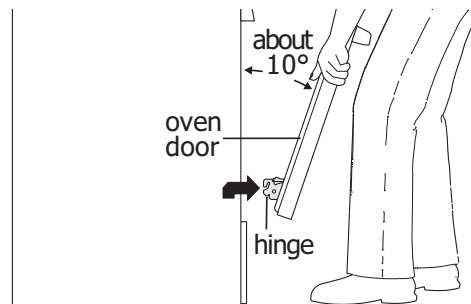
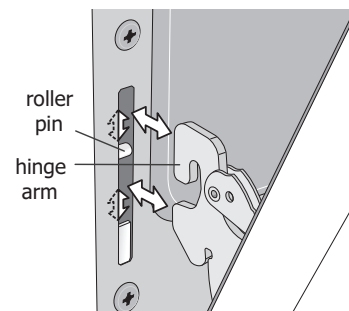

Figure 11: Holding door for removal
Figure 12: Replacement and location of hinge arm and roller pin
3. Firmly grasp both sides of oven door along the door sides. Do not use the oven door handle (See Figure 11).
4. Close the door to approximately 10 degrees from the door frame (See Figure 11).
5. Lift the oven door hinge arms over the roller pins located on each side of the oven frame (See Figure 12).
1. Firmly grasp both sides of oven door along the door sides. Do not use the oven door handle (See Figure 11).
2. Holding the oven door at the same angle as the removal position, seat the hook of the hinge arm over the roller pins located on each side of the oven door frame (See Figure 11 and Figure 12). The hook of the hinge arms must be fully seated onto the roller pins.